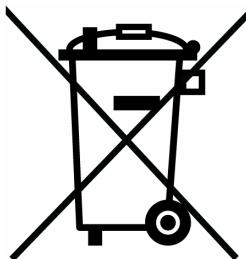

Fig. D.1 Crossed out "wheelie bin" symbol
- marked correspondingly with the crossed out "wheelie bin" logo (see Fig. D.1)